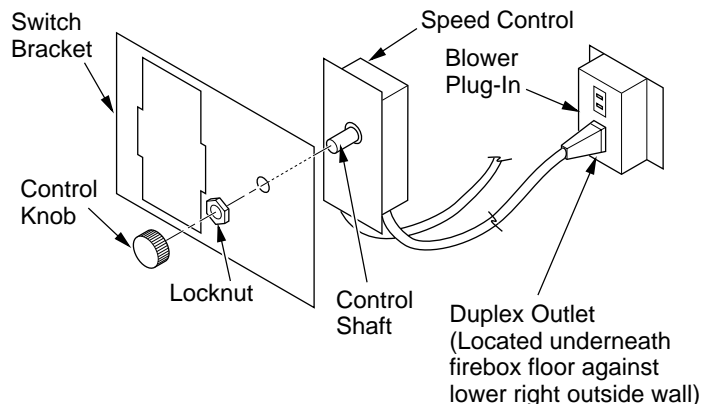

Figure 26 - Attaching Speed Control to Firebox
5. Mount speed control box to switch bracket by placing the plastic control shaft forward through the opening in the switch bracket (see Figure 26).
5. Mount the speed control box against the mounting plate provided in the lower fireplace cavity by placing the plastic control shaft forward through the round hole (see Figure 26, page 16).
6. While supporting speed control, secure control shaft with lock nut by pushing and turning lock nut with pliers clockwise until it is tight against mounting plate. Place control knob provided on shaft (see Figure 26, page 16).